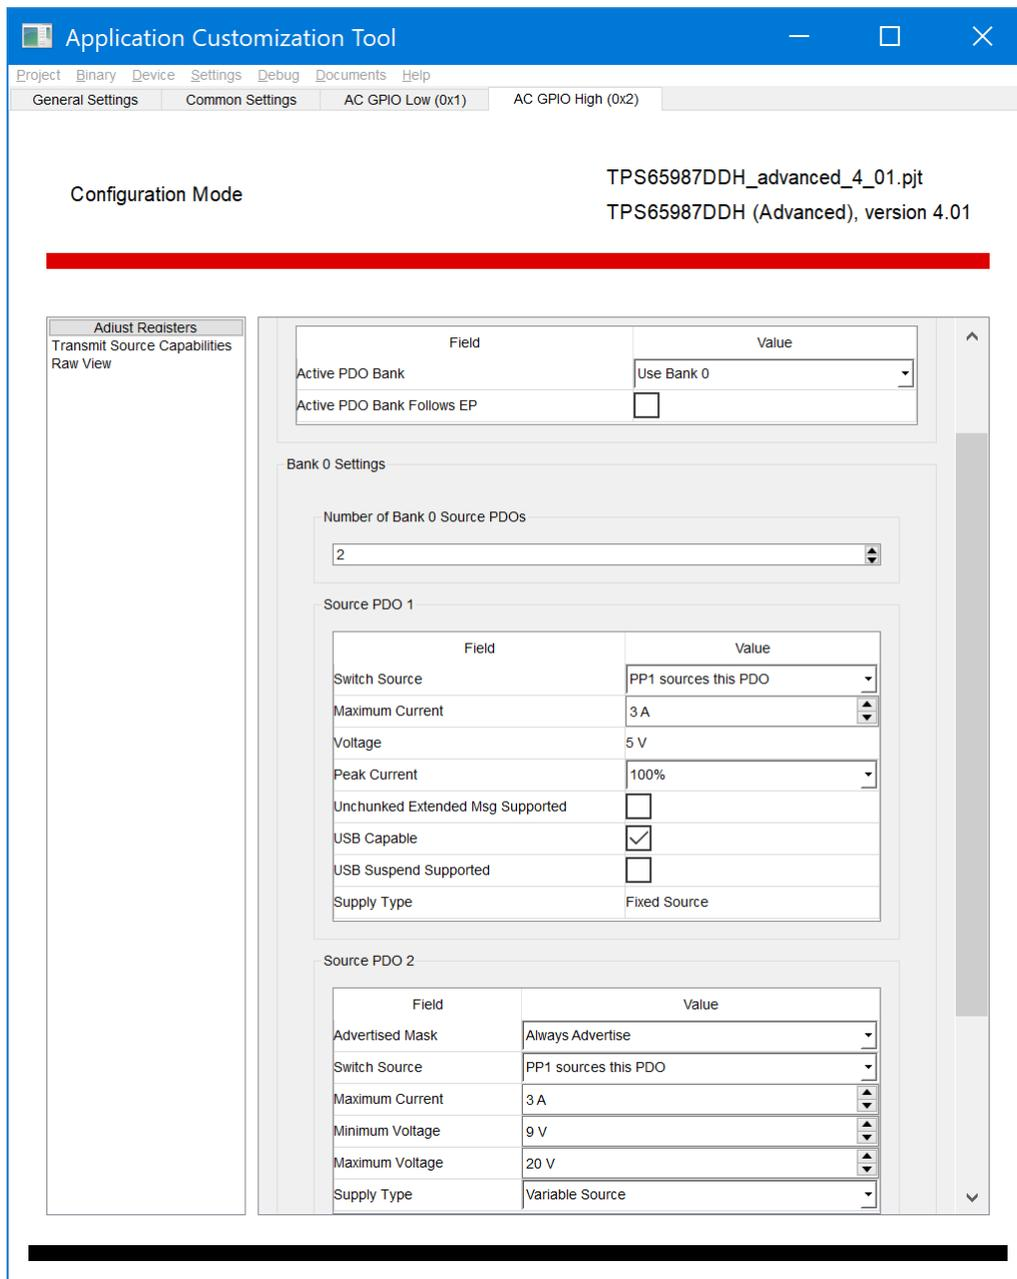

Figure 3-7. App Config GPIO Set Event, GPIO High Settings Example
- Adjust Registers in *AC GPIO High (0x2)* to set the behavior when GPIO4 transients from low to high. In this example, GPIO4 low to high transition would configure Transmit Source Capabilities register (0x32) with two PDOs as shown in Figure 3-7.